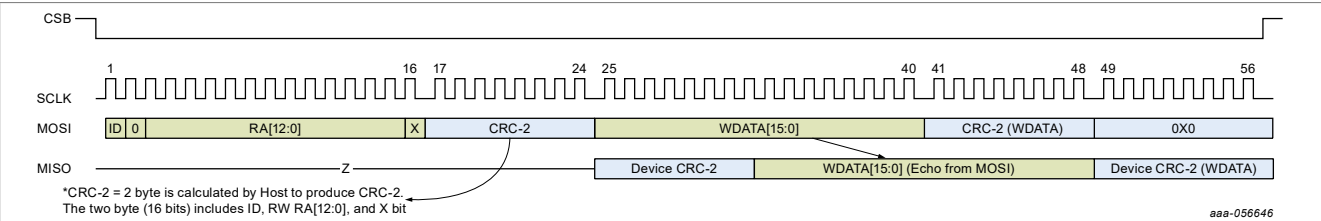
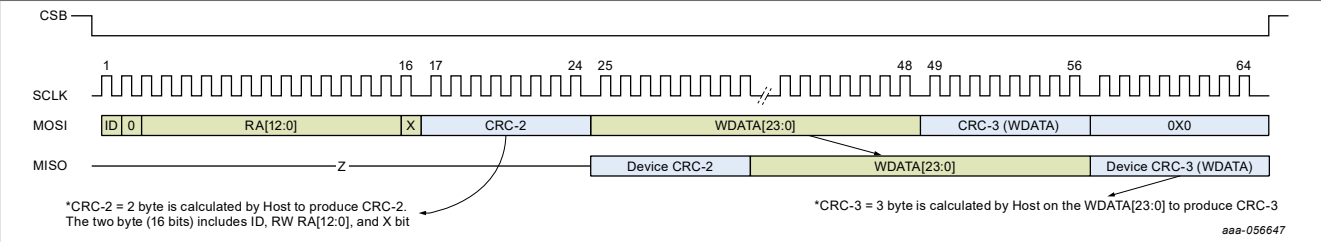

Figure 40. Host writes to register 16-bit with CRC enabled
Figure 41. Host writes to register 24-bit with CRC enabled
Figure 40 and Figure 41 show host writes 16-bit and 24-bit internal register respectively. There are two CRC bytes sent from a host named CRC-2. The first CRC byte is calculated by the host from the first 16-bit data word which includes device ID bit, RWL bit, RA bits, and do not care bit (0). The second CRC byte is calculated from the 16-bit WDATA[15:0] or WDATA[23:0] if the host writes to the 16-bit register or 24-bit register, respectively. There is always an extra empty byte (eight extra SCLKs) required to send after the second CRC byte. If the data sent by the host is not corrupted, the device needs extra clocks to check/verify with the on-chip CRC logic. After the CRC byte is received and a match is found with the device-calculated CRC, then the register update will take place. The controller can decide to drive an extra seven more clock cycles to receive the calculated CRC data from the device. Alternatively, it can terminate the SPI frame by deassert the CSB to high without affecting the register being updated.